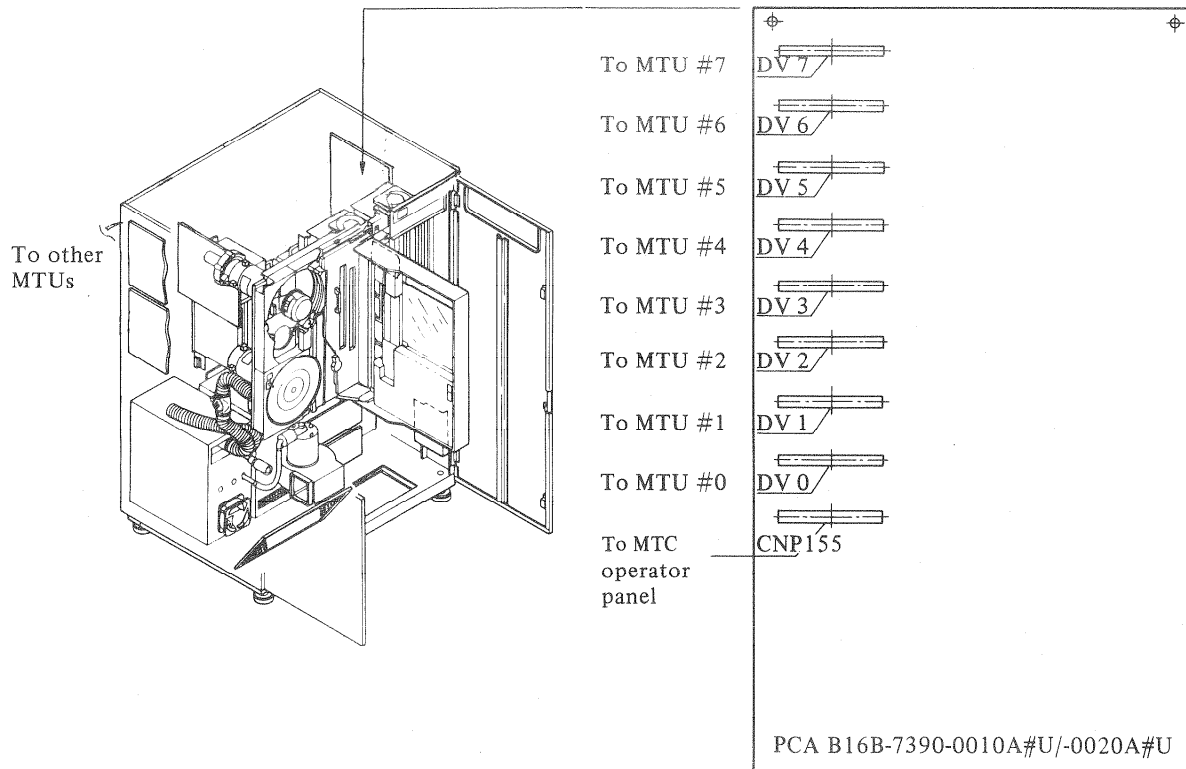
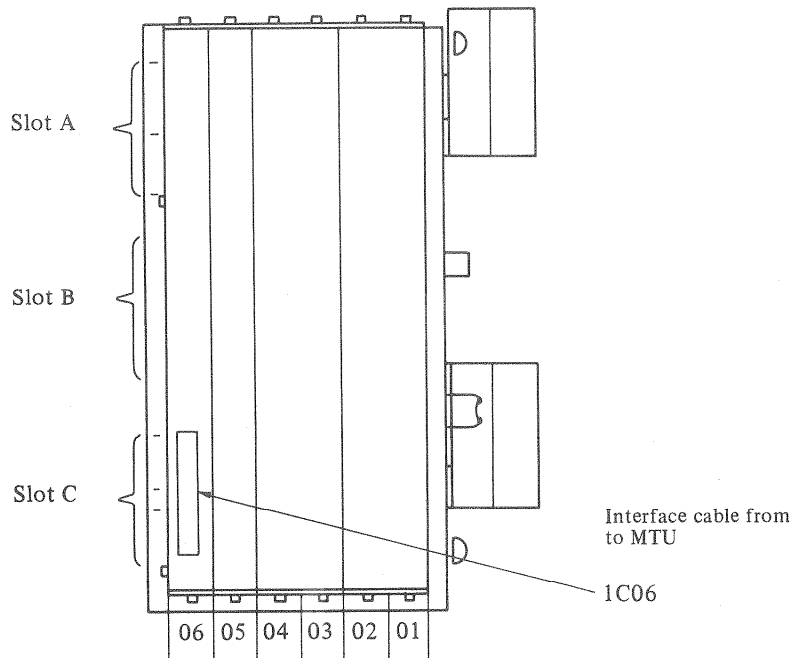
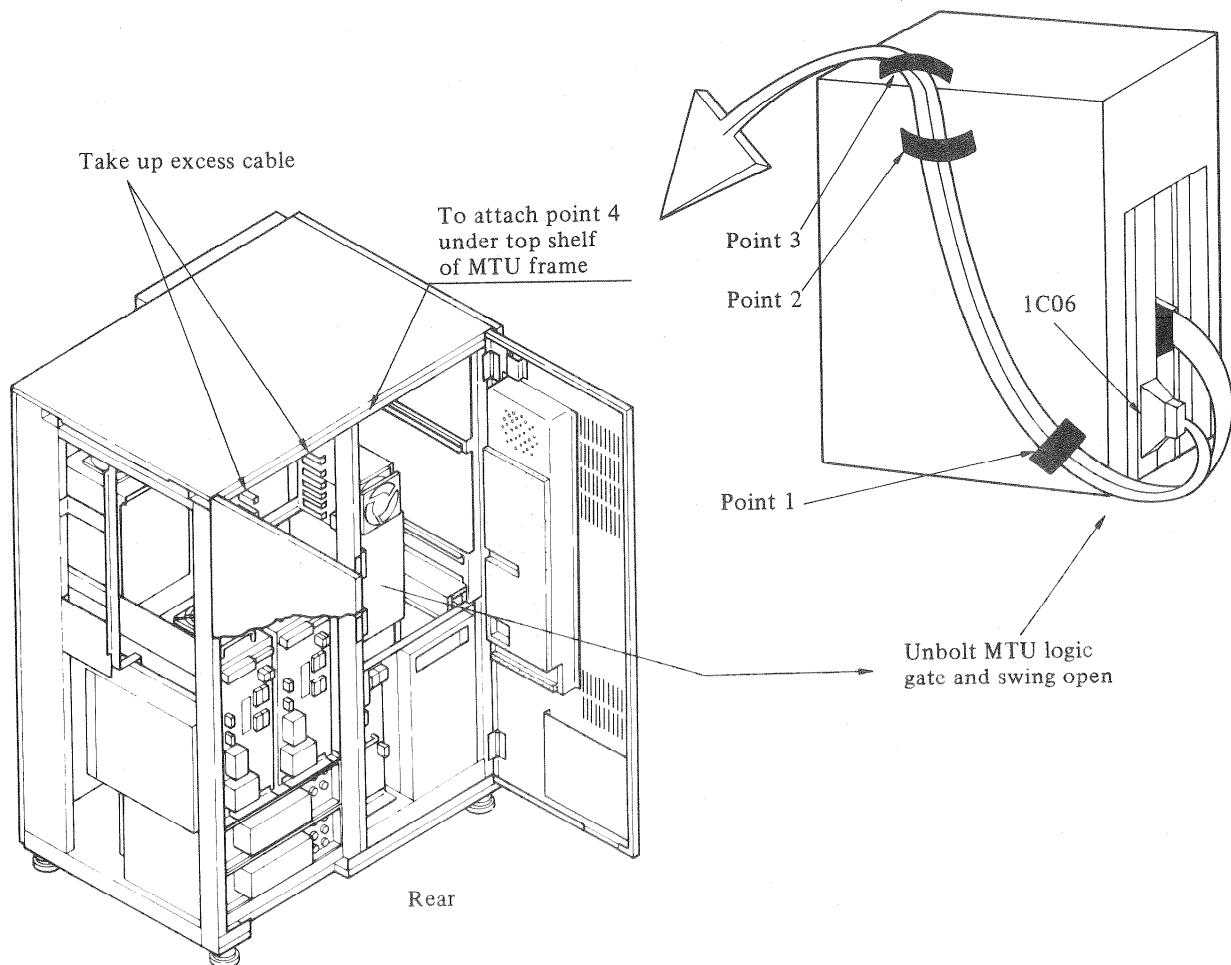

Figure 2.8 MTC/MTU interface cabling
Figure 2.9 MTU PCA location
Figure 2.10 MTC/MTU interface cable routing
The physical connection is between the MTC distribution board shown in Figure 2.8 and the MTU 1C06 shown in Figure 2.9.
- (1) Confirm that the MTC and MTU are not connected to facility power.
- (2) Unbolt the MTU logic gate and card cage assembly of MTU #0 as shown in Figure 2.10.
- (3) Locate interface cable (B03B-5280-0912A) at 1C06, as shown in Figure 2.9.
- (4) Locate the route for the cable through attach Points #1 through #3 on the MTU logic gate, through attach Point #4 on the upper channel provided inside the MTU cabinet, and then to the MTC, as shown in Figure 2.10.
- (5) Locate the connection of the cable onto DV #0 on the interface distribution board (B16B-7390-0010A/U) in the MTC, as shown in Figure 2.8.
- (1) Confirm that the slave MTU(s) are not connected to facility power.
- (2) Unbolt the card cage of slave MTU #1 and swing open.
- (3) Install cable (B03B-5280-0913A) at 1C06 on slave MTU #1 as shown in Figures 2.9 and 2.10.
- (4) Route cable in the same manner as step 4, above.
- (5) Wind excess cable around the cable hangers located just below the top shelf on the rear of the master MTU, shown in Figure 2.10.
- (6) Install cable onto DV #1 for MTU #1 on the interface distribution board (B16B-7390-0010A/U) of the MTC. This connection is shown in Figure 2.8.
- (7) Repeat steps 1 through 6 to complete MTC/MTU #2 through #7 interface cabling.